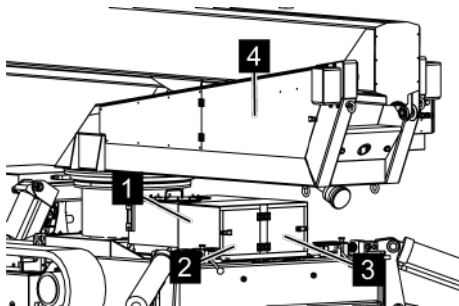

Fig. 128: Shuttle valves door
2. ➤ Open doors (Fig. 128/2 and 3) or completely and remove the cover (Fig. 128/1).
3. ➤ Open the door (Fig. 128/4).